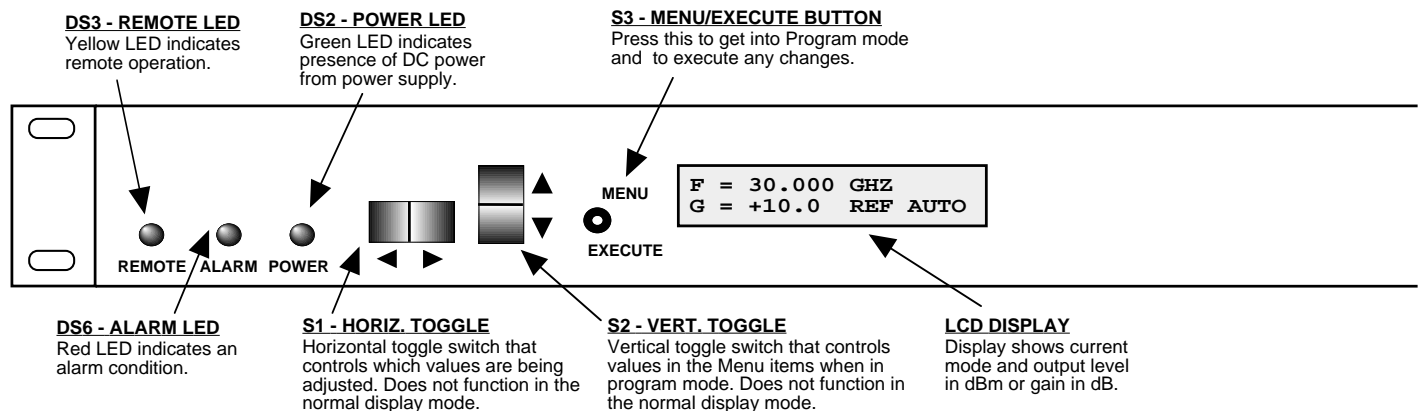

FIGURE 2.2 3115-290#-2075 Front Panel Controls and Indicators
Figure 2.2 shows the front panel controls and indicators.
5. Be sure DS2 (green, DC Power) is on and DS6 (red, Alarm) is off (Figure 2.2).
Alarm indications appear on the LEDs (see Figure 2.2).